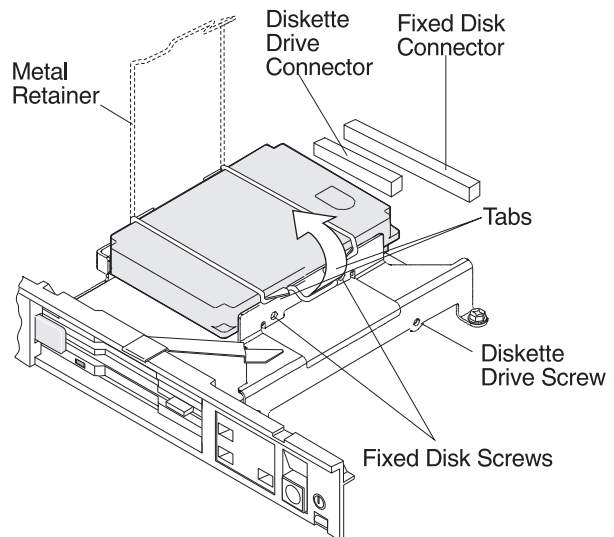

Figure 3-35. Removing the Fixed Disk
- 3 Pull outward on the metal retainer to release it from the tabs and lift up as shown in Figure 3-35.